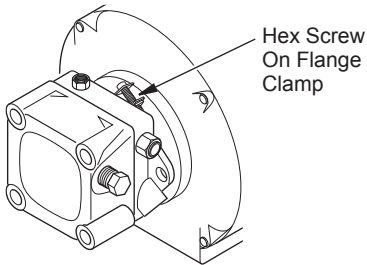

Figure 13 - Location of Screw on Flange Clamp
2. Loosen hex screw on flange clamp at rear of motor with 5/16" nut-driver (see Figure 13).